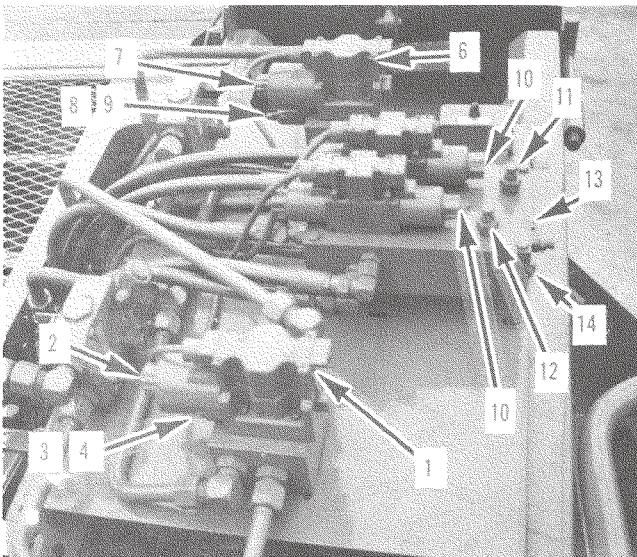

Figure 27. Conveyor Control with Powered Seat
2. Power Gate Relief Valve (Figure 27)
d) Use the manual override button to activate the valve. (Fig. 27, Ref. 10)
e) Use an allen wrench to adjust the cartridge. This relief valve should be set to 900 psi for single spool valve, or 900 psi for double spool valve. (Fig. 27, Ref. 11)
9. Left Conveyor Relief Valve (Figure 27, Ref. 4)
d) Use the manual override to actuate the valve (Fig. 27, Ref. 2).
4.) Right Conveyor Relief Valve (Figure 27)